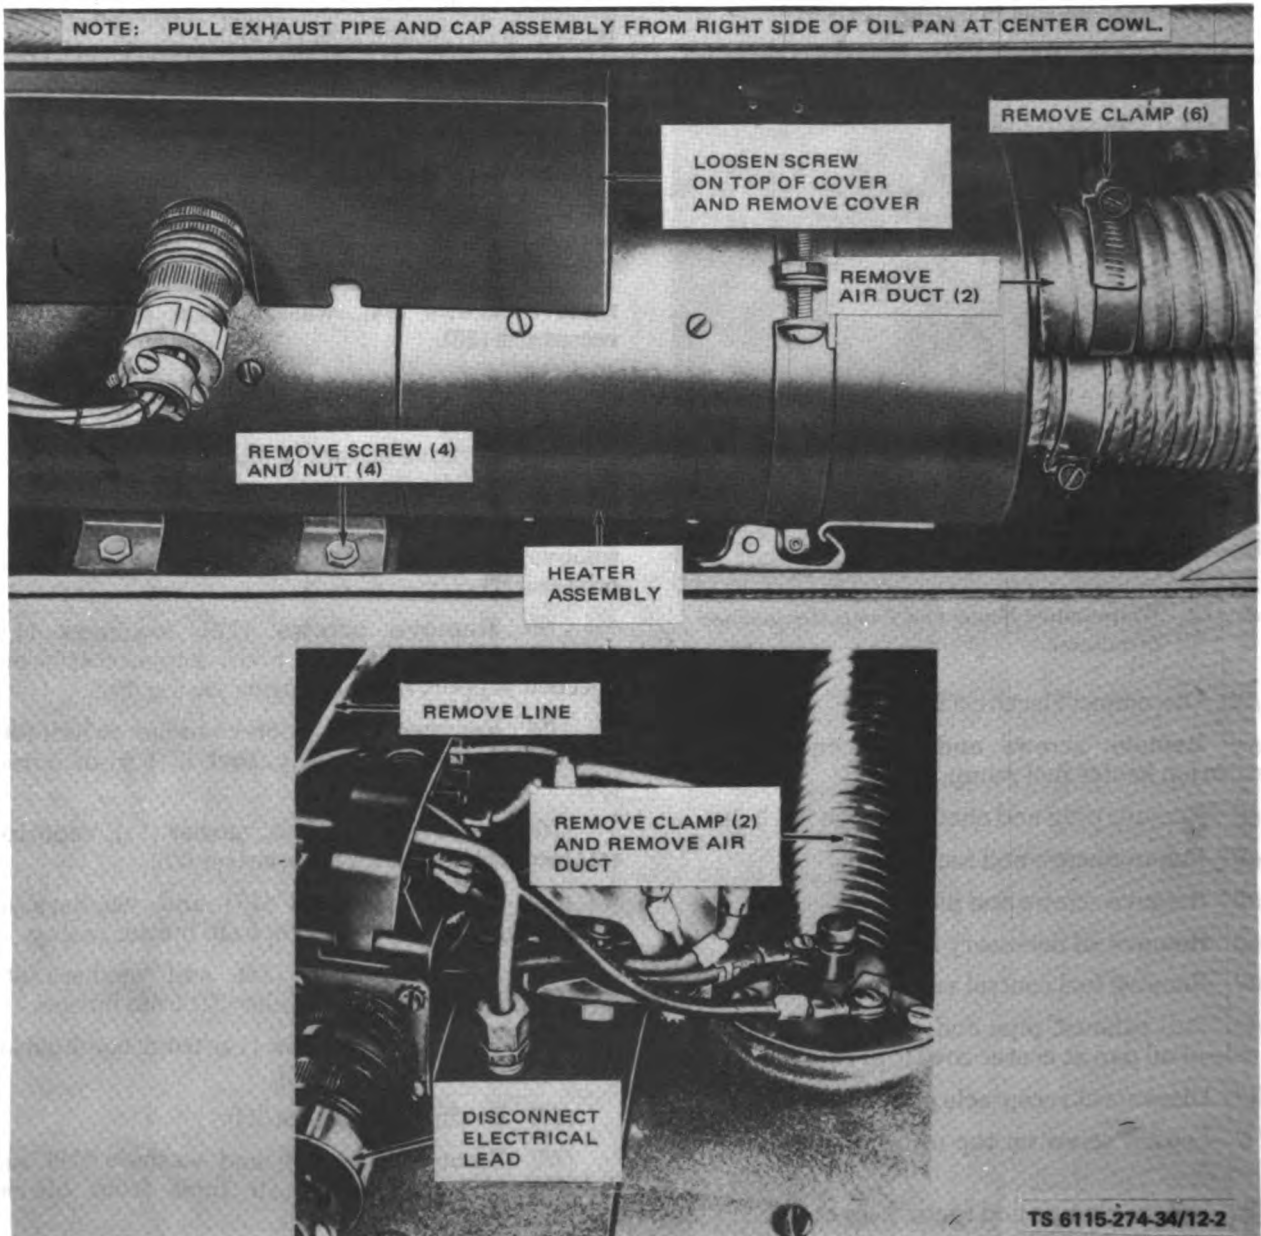

Figure 12-2. Heater Assembly, Removal and Installation
- (5) Remove screw and handle.
- (6) Remove screws and plate.
- (7) Remove all necessary lines and fittings.
- (8) Remove fuel control valve.
- (9) Pull exhaust pipe and cap assembly from right side of oil pan at center cowl (fig. 12-2).
- (10) Disconnect receptacle plug.
- (11) Loosen screw on top of cover and remove cover.
- (12) Loosen clamps and remove air ducts.
- (13) Remove fuel line.
- (14) Remove clamps and air duct.
- (15) Remove screws and nuts and remove heater assembly.
(1) Install heater assembly and attach with screws and nuts (fig. 12-2).
(2) Install clamps and air ducts.
(3) Install fuel line.
(4) Install air ducts and tighten clamps.
(5) Install cover and tighten screw.
(6) Connect receptacle plug.
(7) Attach exhaust pipe and cap assembly to oil pan.